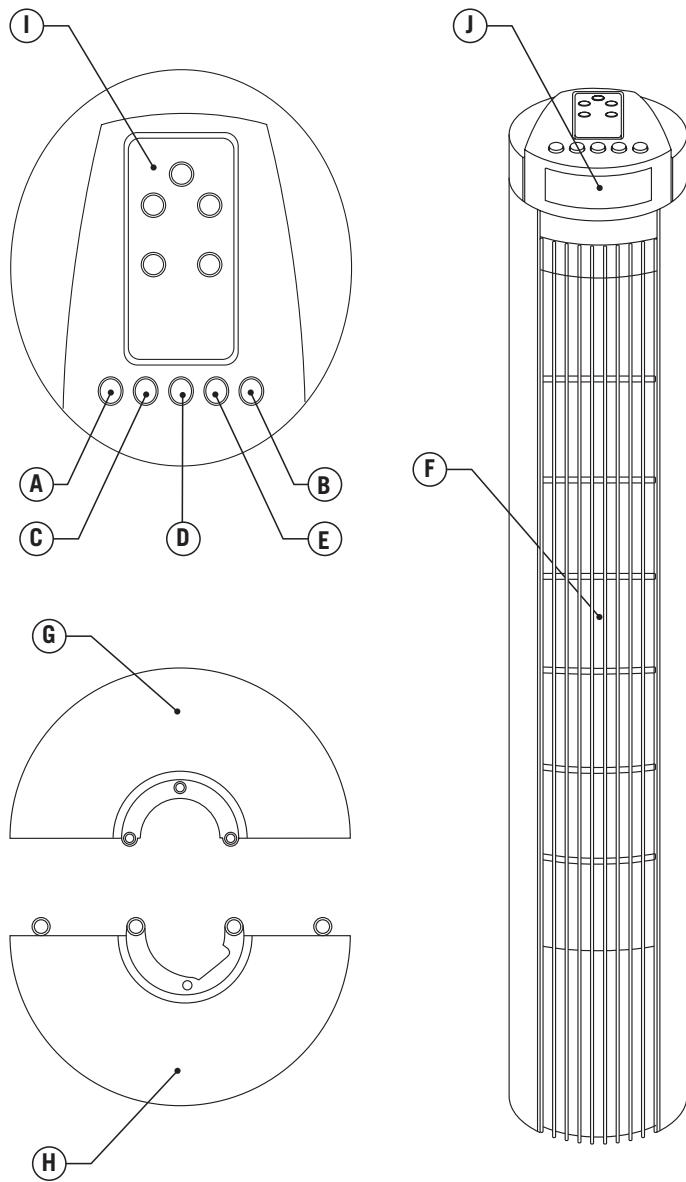

Fig.1
- ◆ Fit the base with the column and secure it with the screws provided (Fig.1).